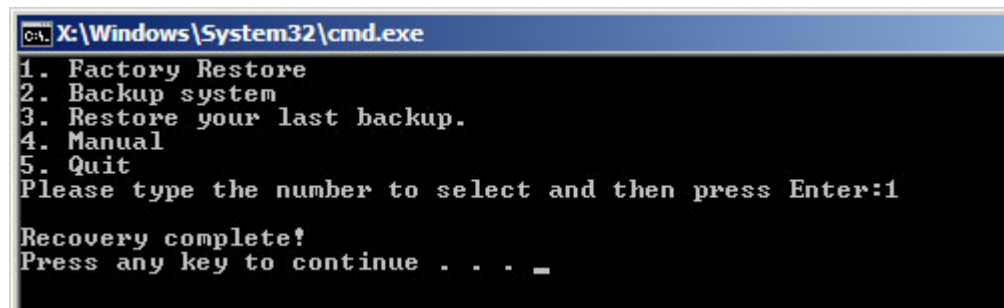

Figure A-28: Recovery Complete Window
Step 10: The screen is shown as in **Figure A-28** when completed. Press any key to reboot the system.